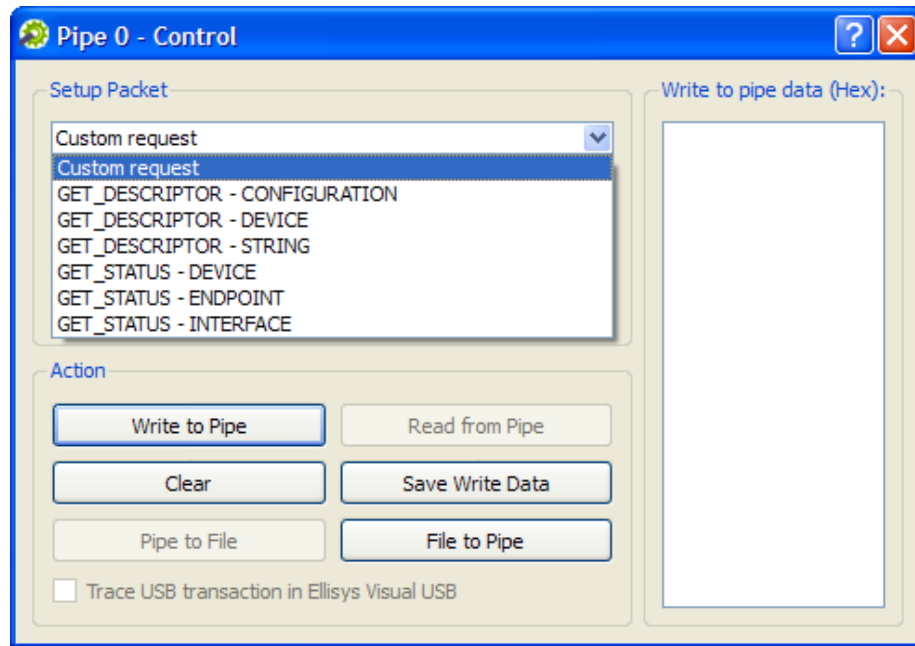

Figure 9.4: Requests List
- For a standard USB request: select a USB request from the requests list, which includes requests such as **GET_DESCRIPTOR**, **GET_DESCRIPTOR CONFIGURATION**, **GET_DESCRIPTOR DEVICE**, **GET_STATUS DEVICE**, etc. (see Figure 9.4). The description of the selected request will be displayed in the **Request Description** box on the right hand of the dialogue window.